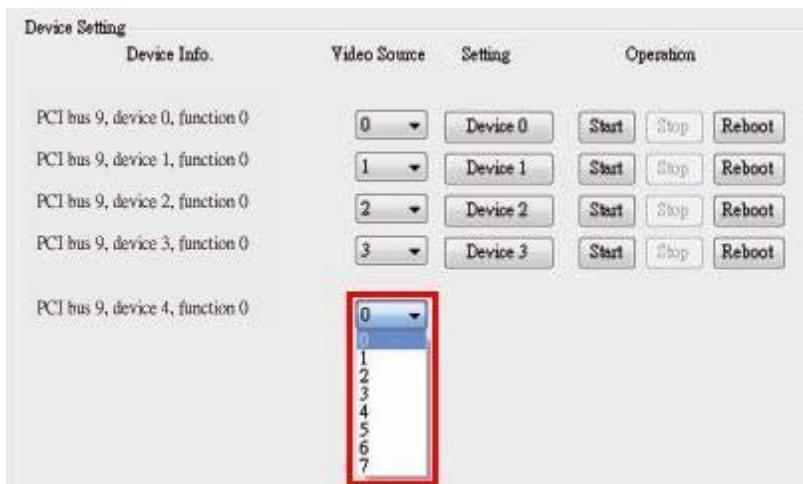

Figure 2-9: Select Transmitter Device for HDC-304E
Step 4: **This step is only required for the HDC-302E.** Select the transmitter bus (0 or 1) (Figure 2-9). For example, to view the video input source 1 on HDMI display device, select the transmitter bus 0. Please refer to the following table:
Step 5: This step is only required for the HDC-304E. Select the transmitter bus from 0 to 3 (**Figure 2-9**). For example, to view the video input source 1 on HDMI display device, select the transmitter bus 0. Please refer to the following table: